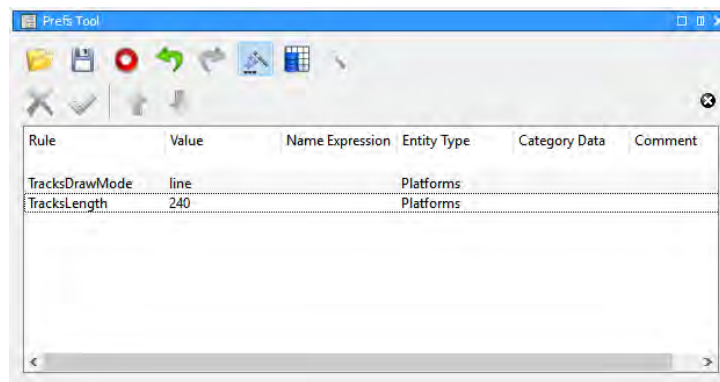

Figure 5.17: Added Preference Rules
9. Toggle the  icon to display the preference rules list and verify added preference rules. See Figure 5.17 for reference.